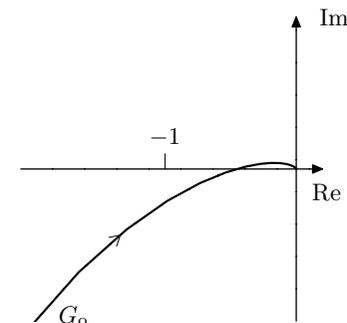
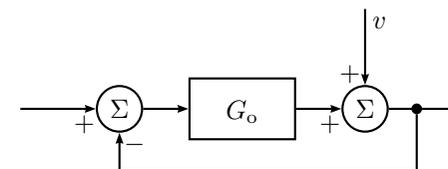

Figure 6.3a
Figure 6.3b
- 6.3 Figure 6.3a shows a Nyquist diagram for the loop gain  $G_o$ . Show in a figure for what frequencies (that is, for what part of the Nyquist curve above) additive disturbances on the output are amplified in the sense that the output amplitude of the control system in Figure 6.3b is larger than the disturbance amplitude.